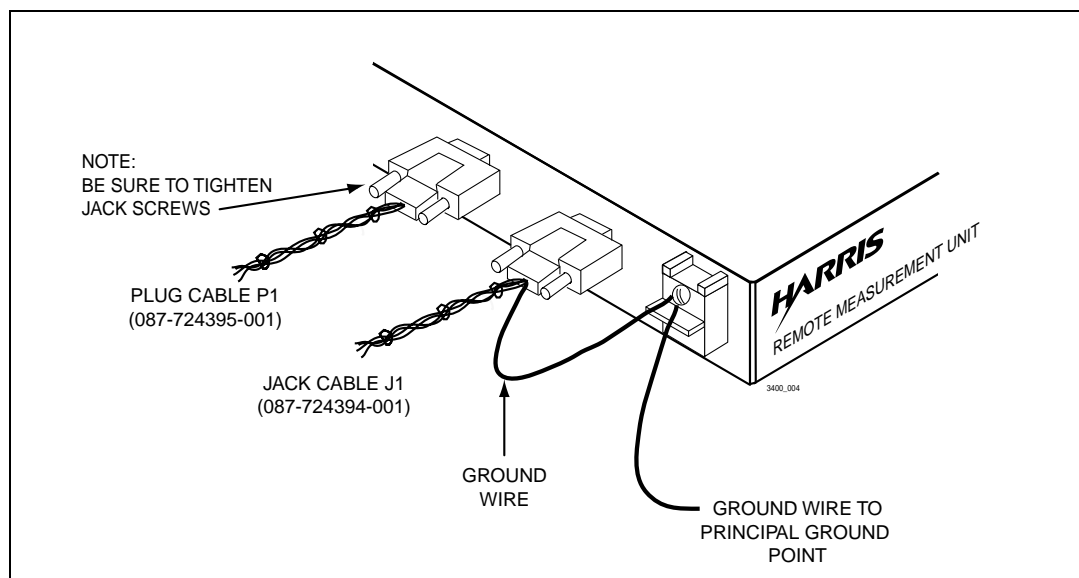

Figure 1-5. RMU 3400 with Cables Connected
2. Strip the end of the 24 AWG (black) stranded wire coming from the jack cable (J1) assembly (the ringing cable shield ground wire) and crimp it to the appropriate spade tongue terminal. Figure 1-5 illustrates the RMU with cables connected.
Once the Data and Talk POTS lines from carrier system channel bank to the RMU 3400 are connected, connect the cable connectors. Connect P1 and J1 plug and jack cable assemblies (supplied) to the J01 and P01 ports, respectively, on the RMU 3400 (see Figure 1-5). Tighten jack screws.